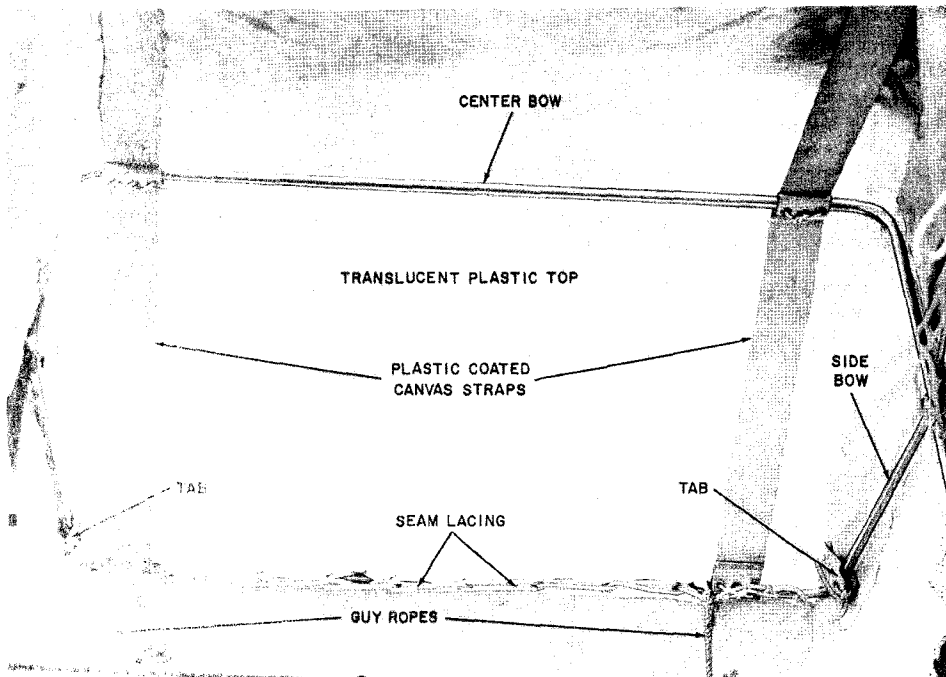

Fig. 7 — Method of Lacing Cover and Straps to Bows
(b) On each side bow, tie the two tabs and lace the seam with lacing rope as shown in Fig. 7. A 1-foot piece of rope is required for each tab and a 6-1/2 foot piece for each seam.
7.03 To install new plastic coated canvas straps, lace each strap to each of the three bows (Fig. 7). A piece of lacing rope approximately 2 feet long is required for each lacing.